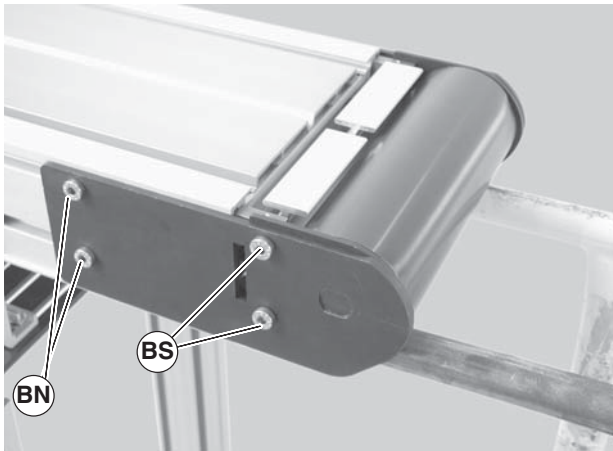

Figure 49
2. On one side of conveyor, loosen the two (2) back fastening screws (Figure 49, item BN) and remove two (2) front fastening screws (BS).